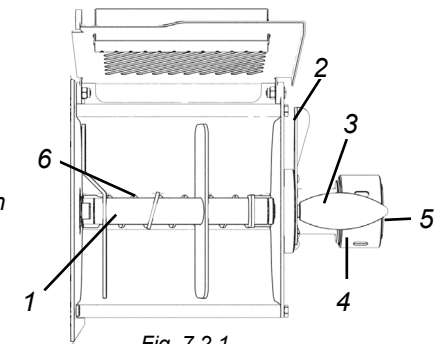

Fig. 7.2.1
1. Put the blade "1" in the position shown in Fig. 7.2.1.
WARNING! If the blade is not locked in position as shown in fig. 7.2.1 it **cannot** be removed.